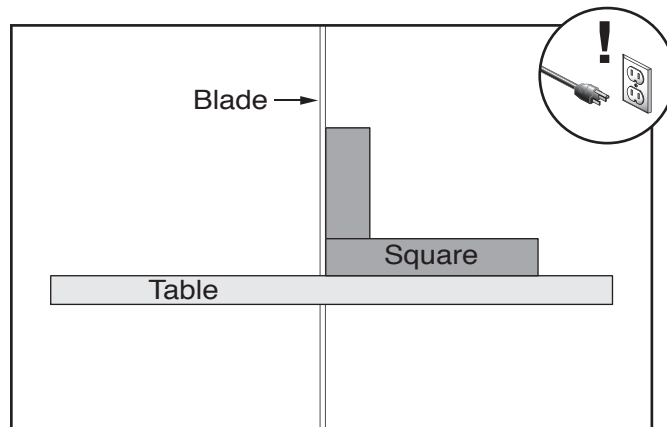

Figure 36. Squaring blade to table.
4. Place a machinist's square flat on table against side of blade (see **Figure 36**).